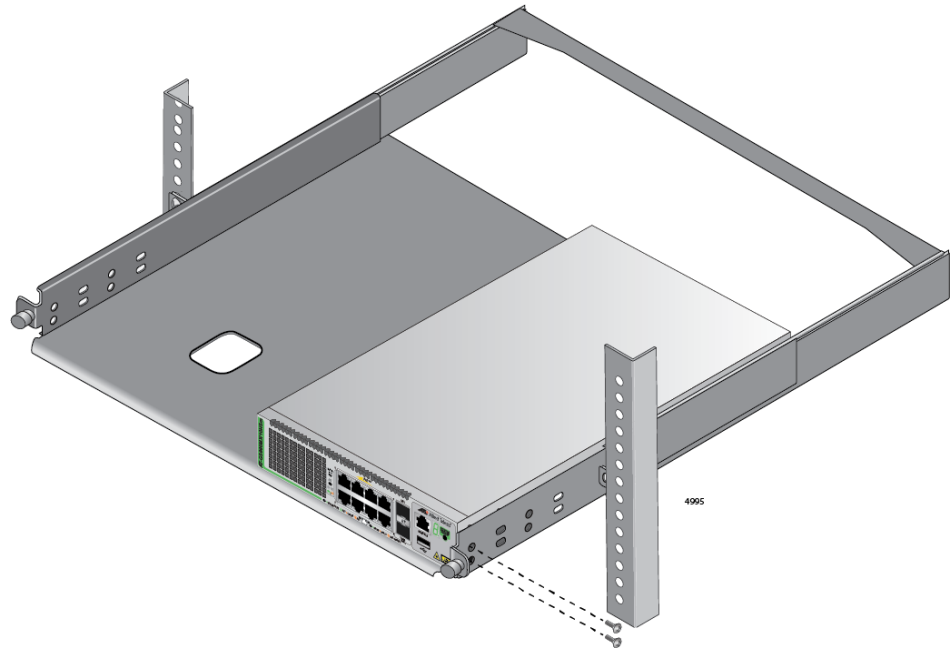

Figure 47. Securing the GS980MX/10HSm Switch to the RKMT-J15 Bracket
5. Install two M4x6mm screws included with the RKMT-J15 using the first set of holes to secure the switch to the bracket. Refer to Figure 47.